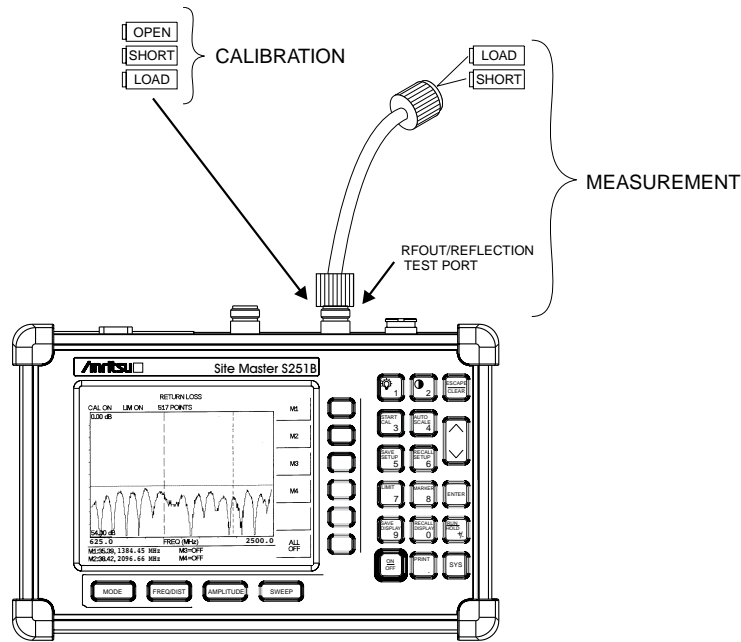

Figure 4-9. Cable Measurement Test Setup
**Step 16.** Connect the Load to the open end of the test port extension cable as shown in Figure 4-9.